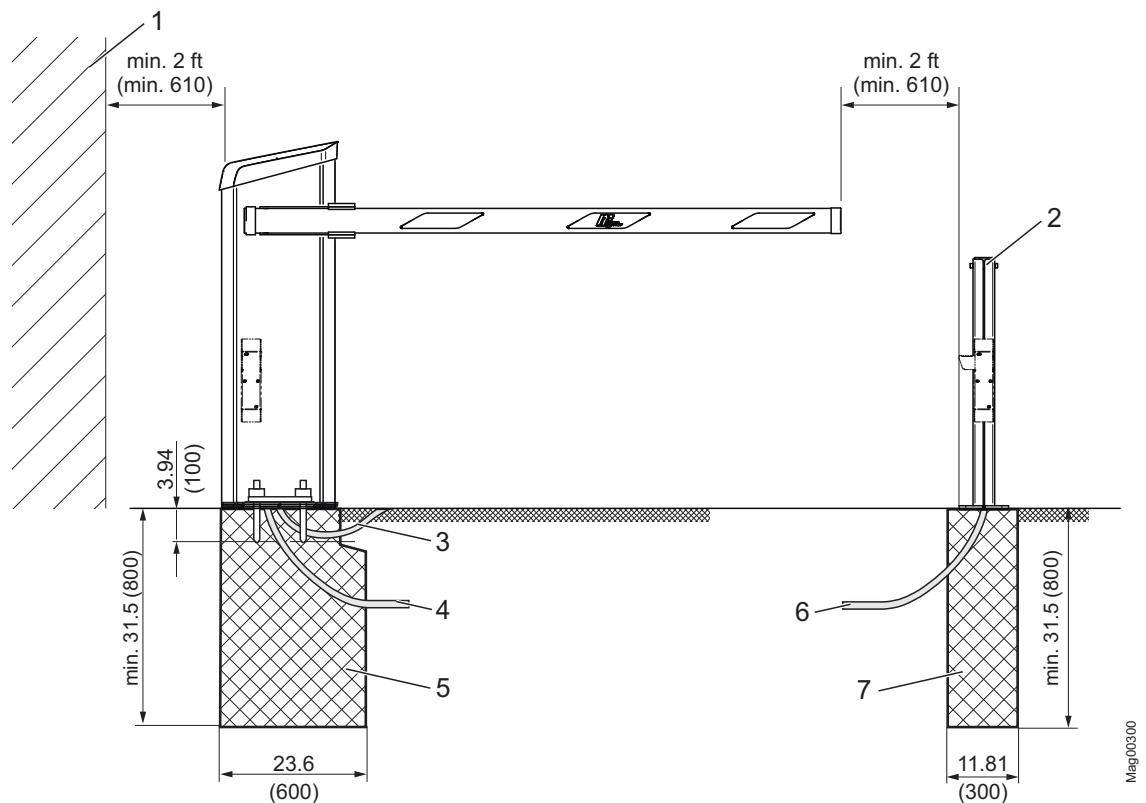
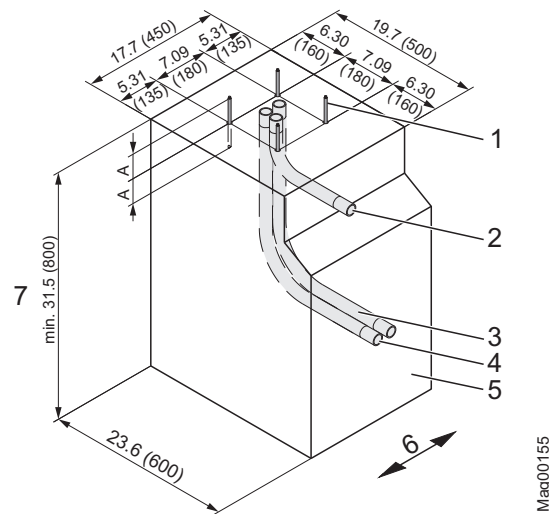
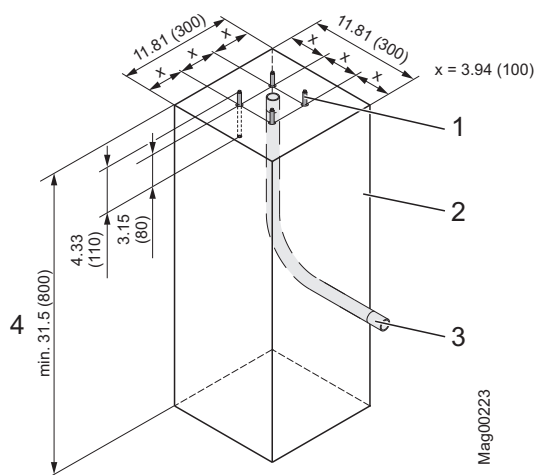

Fig. 10: Assembly barrier system
Fig. 11: Foundation plan
Fig. 14: Foundation plan for light barrier post
- Assemble and install barrier system according to Fig. 10.
→ See page 25, chapter 2.7 and page 43, Fig. 10.
→ See page 43, Fig. 10 and page 45, Fig. 11.
→ See page 45, Fig. 11.
1. Dig foundation hole pursuant to Fig. 10 and Fig. 11.
3. Place empty conduits pursuant to Fig. 11 in the foundation hole.
5. Fill concrete foundation pursuant to Fig. 10.
→ See page 43, Fig. 10 and page 48, Fig. 14.
1. Dig foundation hole pursuant to Fig. 10 and Fig. 14.
2. Place empty conduit pursuant to Fig. 14 in the foundation hole.
4. Fill concrete foundation pursuant to Fig. 14.
1. Cut a 1.97 in (50 mm) deep groove into the surface or asphalt using a cutting disc. The groove must be equally deep at every point. According to Fig. 14 the corners of the groove must be cut in a 45° angle.